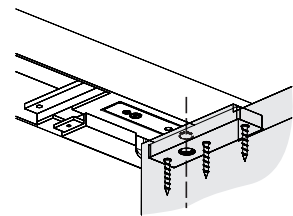

Figure 7
3. Tip door into vertical position aligning frame portion pivot stud to door portion hole. (Figure 7)